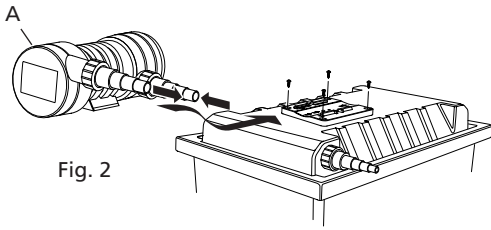

Fig. 2
- 3.3 To mount the unit, first slide the base from the main body. Using 4 suitable fixings, screw the base to the mounting surface. (See fig 2). Slide the main body back on to the base.
Important - the outlet (A) should be at the top of the unit, to ensure no air is trapped inside. (See fig 2 & 3).